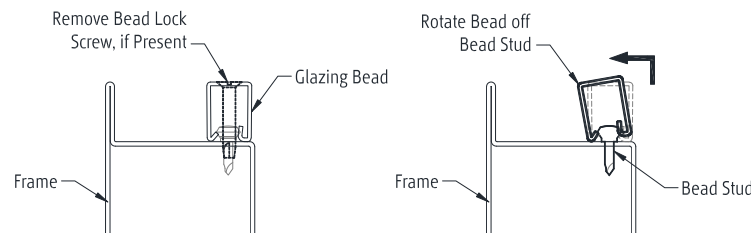

Figure 6 - Remove Glazing Beads
- Remove the bead lock screws, when present, from the glazing beads (Figure 6). Bead lock screws are not used on non-rated applications.
- Rotate glazing beads off the bead stud (Figure 6).